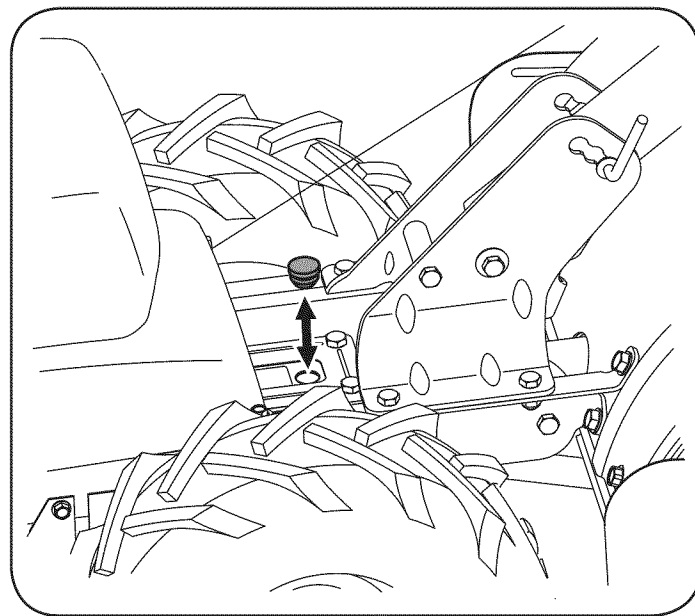

Figure 7
2. Remove the oil fill plug from the transmission housing cover and locate the main drive shaft situated inside the housing. See Figure 7.